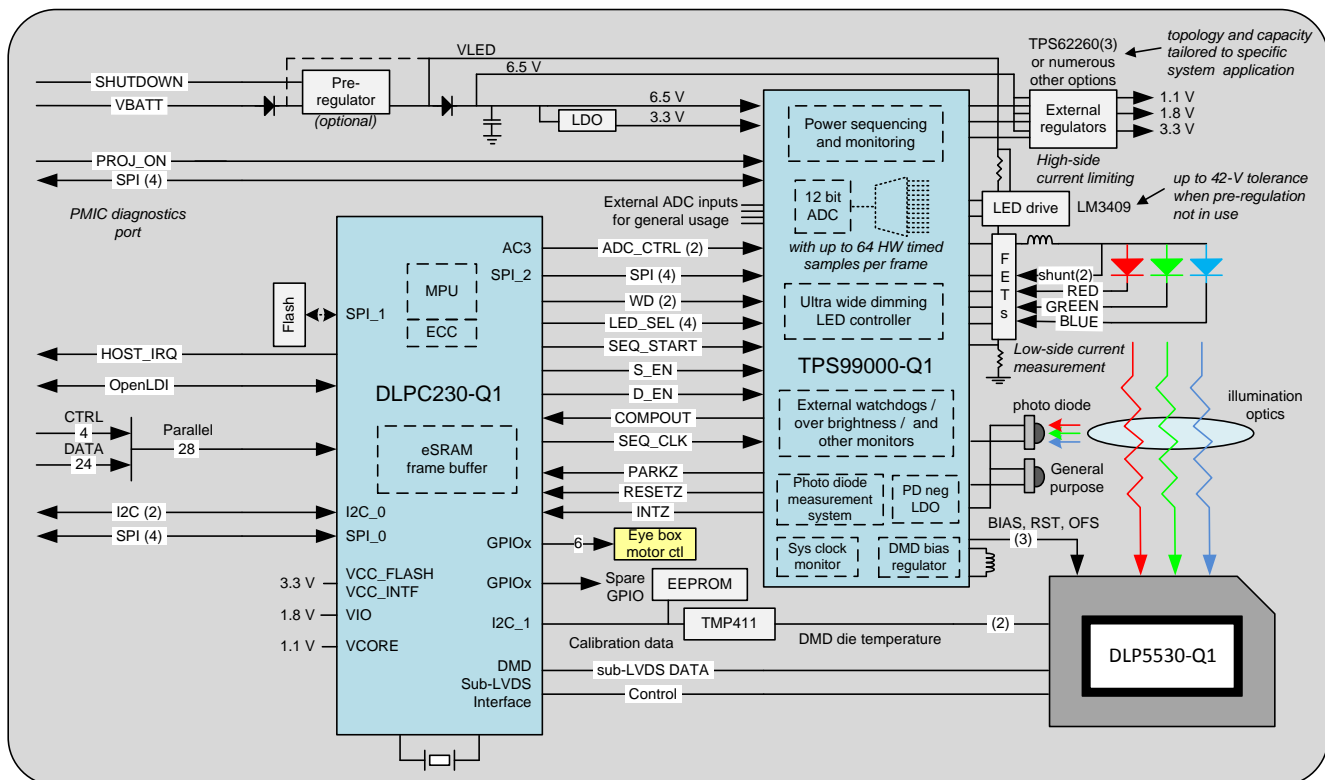

Figure 20. Head-Up Display System Block Diagram
The chipset consists of three components—the DLP5530-Q1 automotive DMD, the DLPC230-Q1, and the TPS99000-Q1. The DMD is a light modulator consisting of tiny mirrors that are used to form and project images. The DLPC230-Q1 is a controller for the DMD; it formats incoming video and controls the timing of the DMD illumination sources and the DMD in order to display the incoming video. The TPS99000-Q1 is a controller for the illumination sources (LEDs) and a management IC for the entire chipset. In conjunction, the DLPC230-Q1 and the TPS99000-Q1 can also be used for system-level monitoring, diagnostics, and failure detection features. Figure 20 is a system level block diagram with these devices in the DLP head-up display configuration and displays the primary features and functions of each device.
**Figure 20** shows the system block diagram for a DLP HUD system. The system uses the DLPC230-Q1, TPS99000-Q1, and the DLP5530-Q1 automotive DMD to enable a head-up display with high brightness, high efficiency, and a large virtual image distance. The combination of the DLPC230-Q1 and TPS99000-Q1 removes the need for external SDRAM and a dedicated microprocessor. The chipset manages the illumination control of LED sources, power sequencing functions, and system management functions. Additionally, the chipset supports numerous system diagnostic and built-in self test (BIST) features. The following paragraphs describe the functionality of the chipset used for a HUD system in more detail.